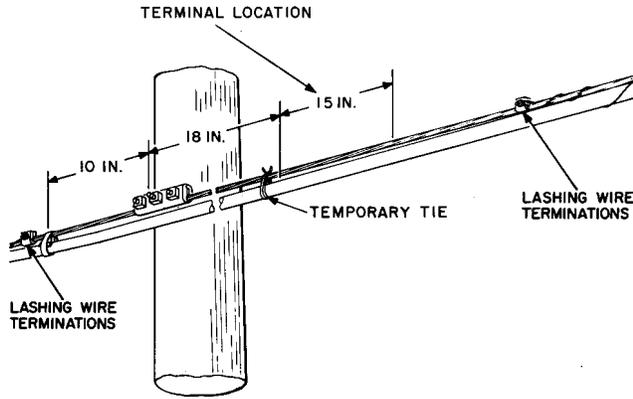

Fig. 5—Preferred Location at Right Side of Pole (Viewed from Cable Side)
- 3.01 Figures 5 through 12 show the location of the 104- and 105-type cable terminals.